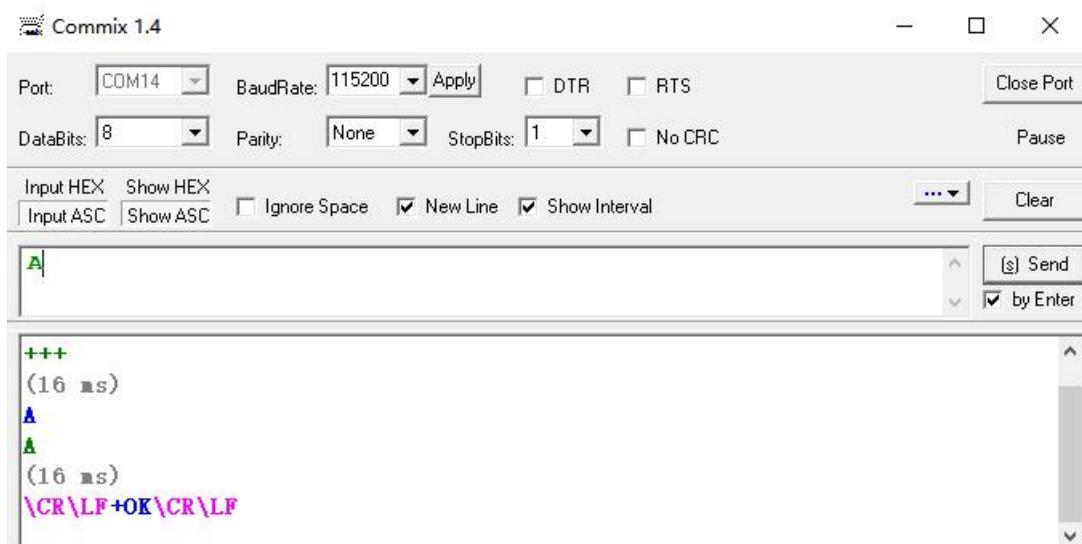

Figure 7-7 Confirmation Code Sending Interface
- 3) After receiving "A", the module sends "+OK" to Commix and enters "AT command mode". As shown in the figure 7-7.